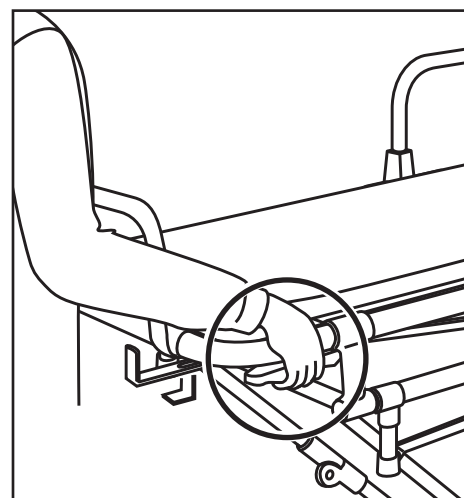

Figure 12 - Squeezing the Control Handles
3. **Both Operators (and helpers):** As the Foot-End Operator squeezes the head-end leg control handle (Figure 12), the operators (and helpers) roll the cot slightly toward the head-end operator, allowing the head-end legs to unlock as the Assistant's foot holds the wheel in place.